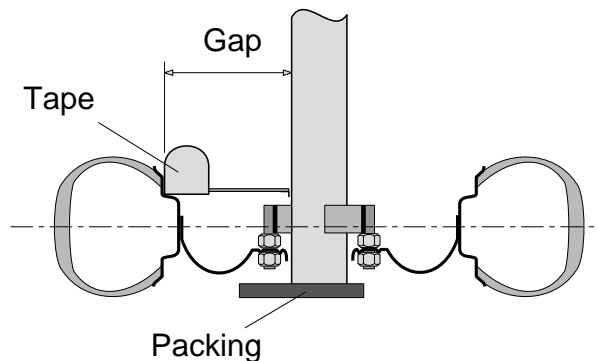
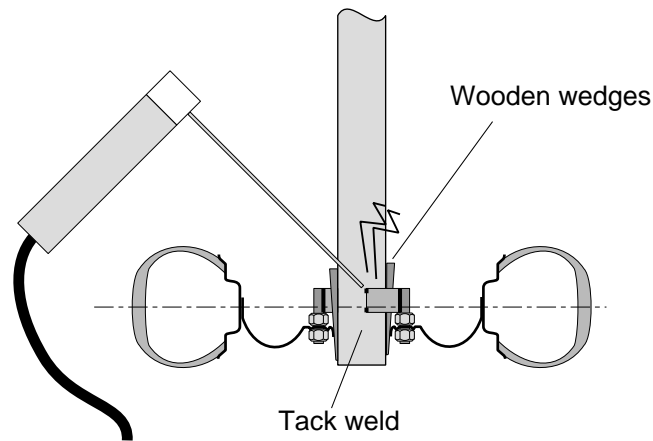

Figure 7: using tape measure to centre axle in wheel.
Figure 9: tyre, wheel and axle tube during tack welding stud support struts
Put the wheel rim on the floor and put the axle in place in the middle. You should put something under the end of the pipe to get it in the right position as shown in Figure 7. Get an assistant to hold the top end of the pipe and tell him to
keep very still! Use your tape to measure from the outside of the pipe to the inside of the rim as Figure 7 shows. Measure in one place and then measure the gap opposite. Move the axle pipe over until it is central. Repeat this for the other direction at right angles. You could use wooden wedges as shown in Figure 9 to hold it.
- 7) Once you have it in position, tack weld the ends of the struts to the axle tube as shown in Figure 9. Then weld the struts on properly. Do as much welding as you can without taking the axle out of the wheel because the metal changes size as it heats and cools and it may move out of place.